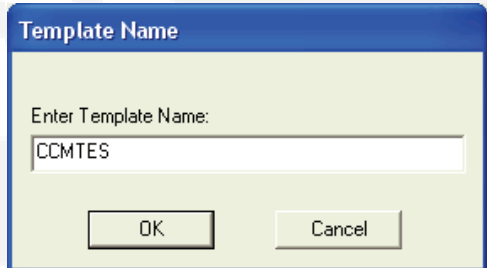

FIGURE 2-43. TEMPLATE NAME
- To create your own template, fill in the appropriate information in the required fields (such as shown in Figure 2-45) and click on **Save As**. The Template Name dialog is displayed (see Figure 2-43). Enter the name and click on the **OK** button.